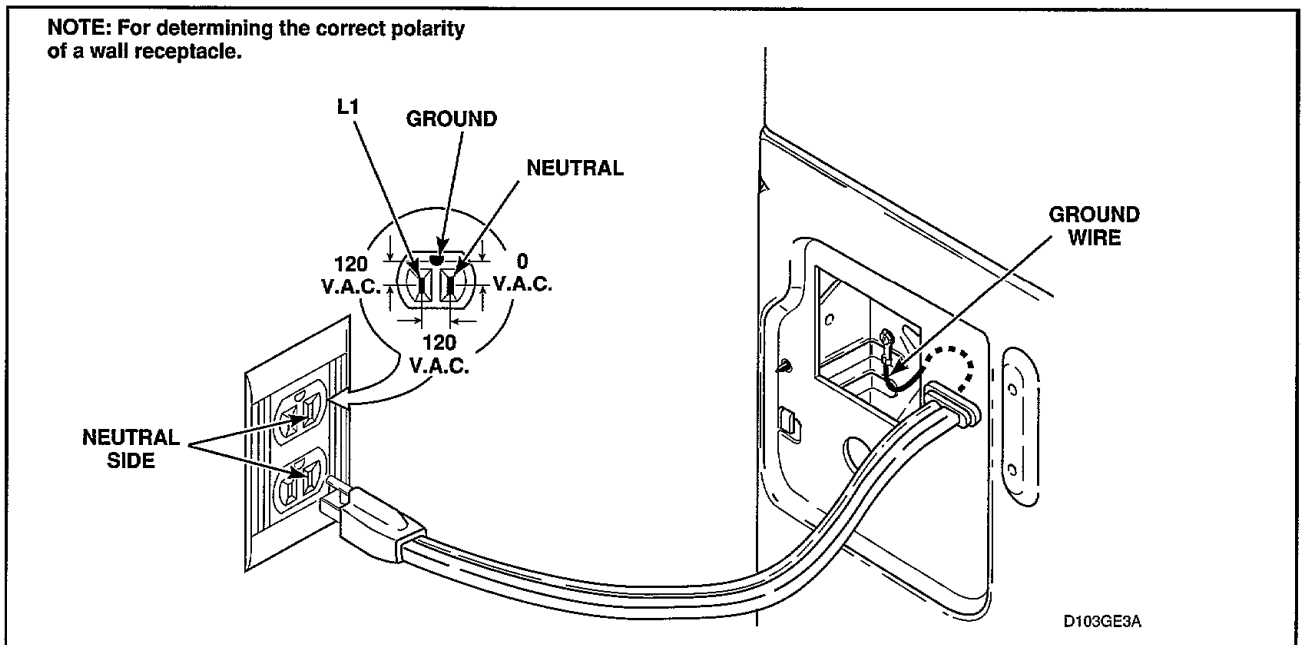

Figure 3
3. POWER CORD TO REAR BULKHEAD. WALL RECEPTACLE POLARITY CHECK (Gas Models Only — *Figure 3*).